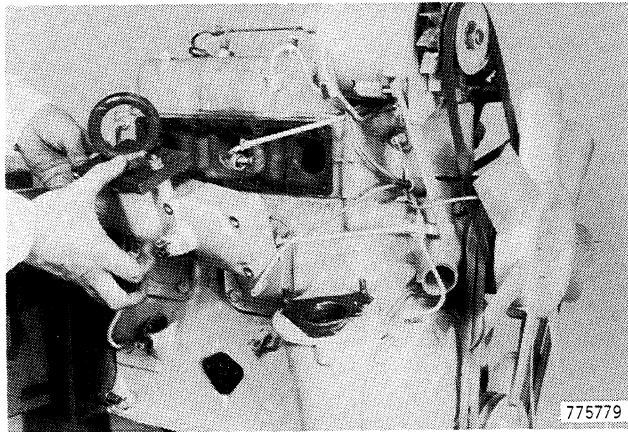

Figure 33
8. Remove the intake manifold, Figure 33.